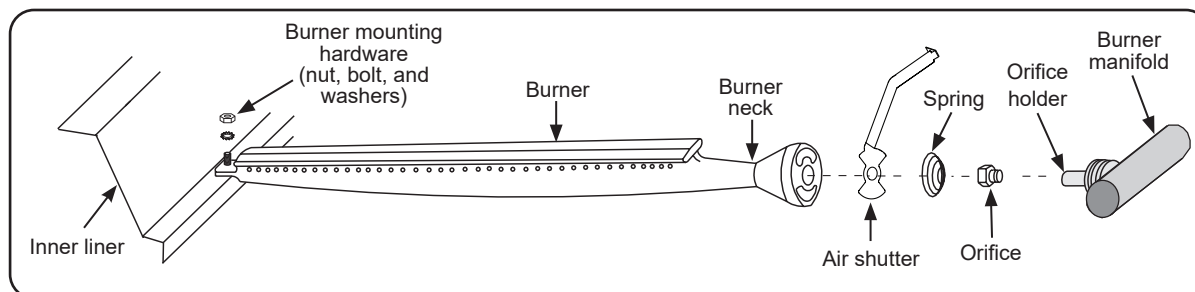

Fig. 38-1 Burner orifice diagram
6. Install the air shutter spring and the air shutter over the orifice holder fitting in the order and position shown in Fig. 38-1. Carefully place the burner back in position, resting on the back flange of the inner liner so that the brass orifice and orifice holder fittings project well into the burners.